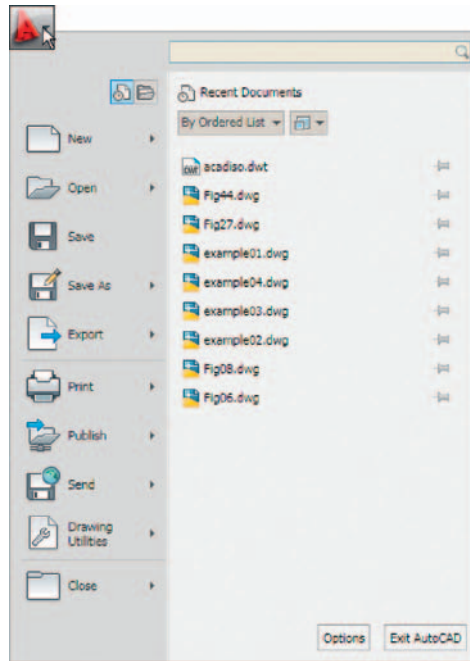

Fig. 1.4 The Menu Browser
**Menu Browser** icon: A *left-click* on the arrow to the right of the **A** symbol at the top left-hand corner of the AutoCAD 2011 window causes the **Menu Browser** menu to appear (Fig. 1.4).